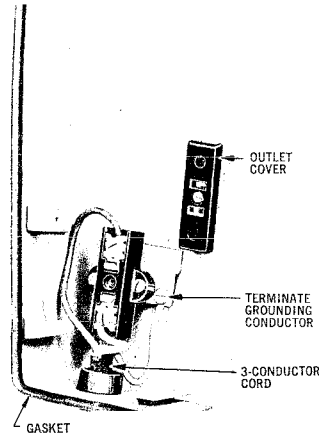

Fig. 2 — Power Cord Termination
3.06 Power connection can be made on the power receptacle in the back box, by the customer's electrical contractor, by removing the screw located in the center of the receptacle cover (see Fig. 2). The terminals for terminating the power wiring are located directly under this cover.
3.07 When a 3-conductor cord is used on an indoor or outdoor installation, the green wire, which is ground, should be terminated under the screw located to the right of the power receptacle (see Fig. 2).